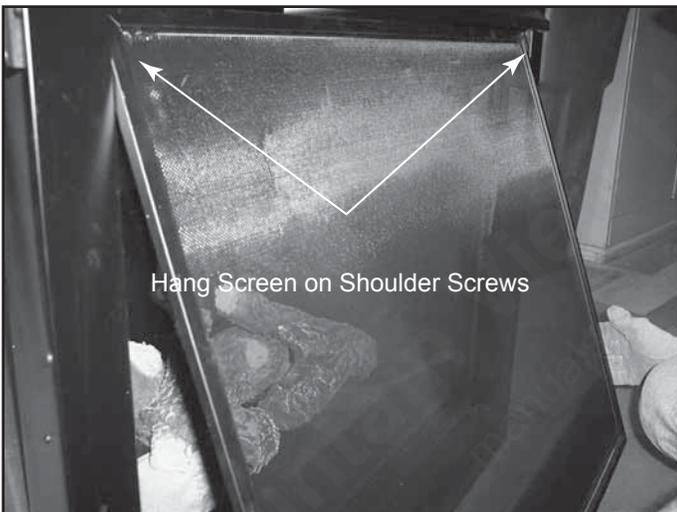

Figure 15.22 Hang Screen
- Hang the screen on the shoulder screws in the columns. See Figure 15.22.